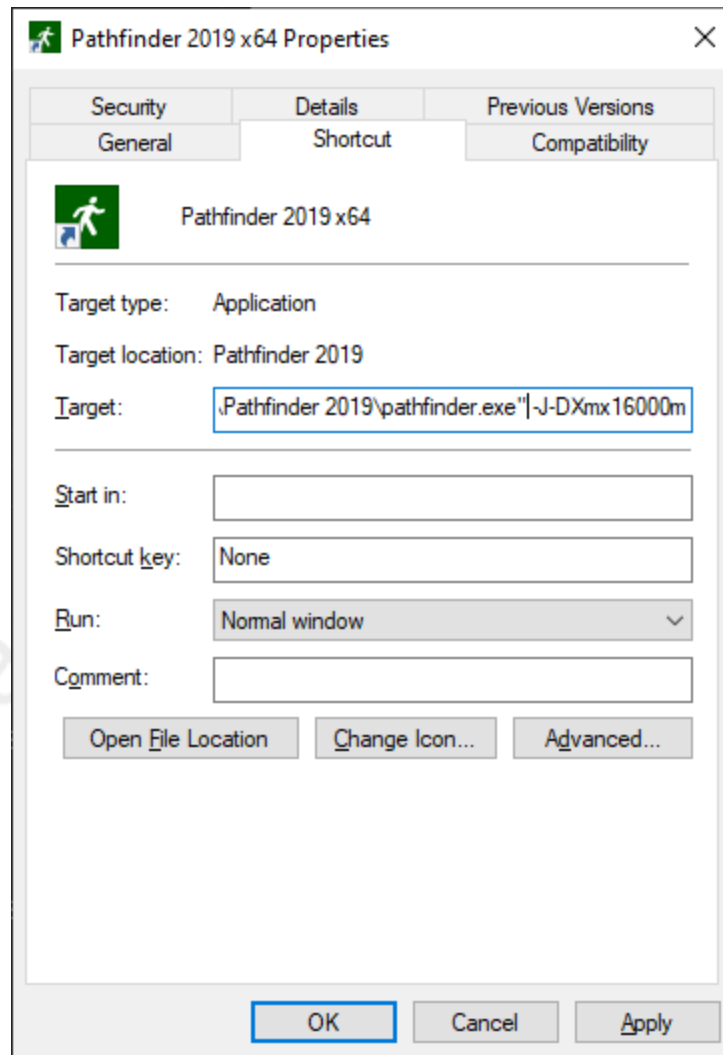

Figure 186. Example Shortcut Dialog
4. At the end of the **Target** field, type a space on the keyboard and then `-J-DXmx16000m`. The shortcut dialog will look similar to Figure 186.